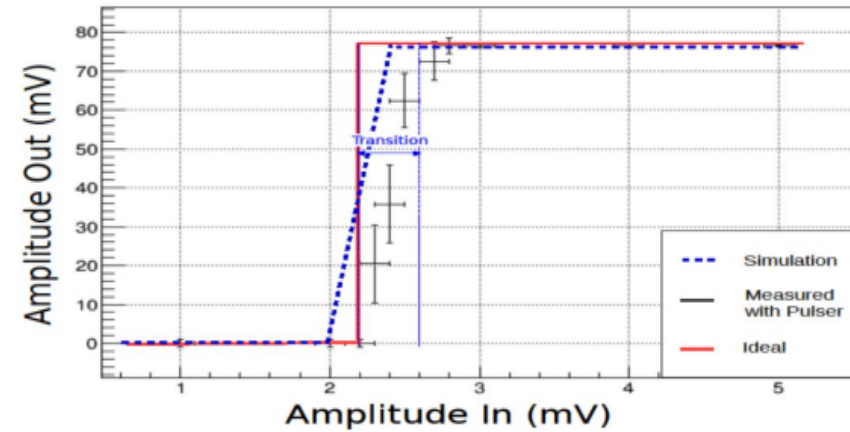

Figure 4: Characteristic function of the discriminator in Si-Ge HJT technology
- Optimal characteristic function with the possibility of an easy regulation of the threshold from a minimum value of few mV (see Fig. 4)
- Very small transition region of around  $300 \mu\text{V}$ , practically negligible when the discriminator is used within the RPC (see Fig 4).